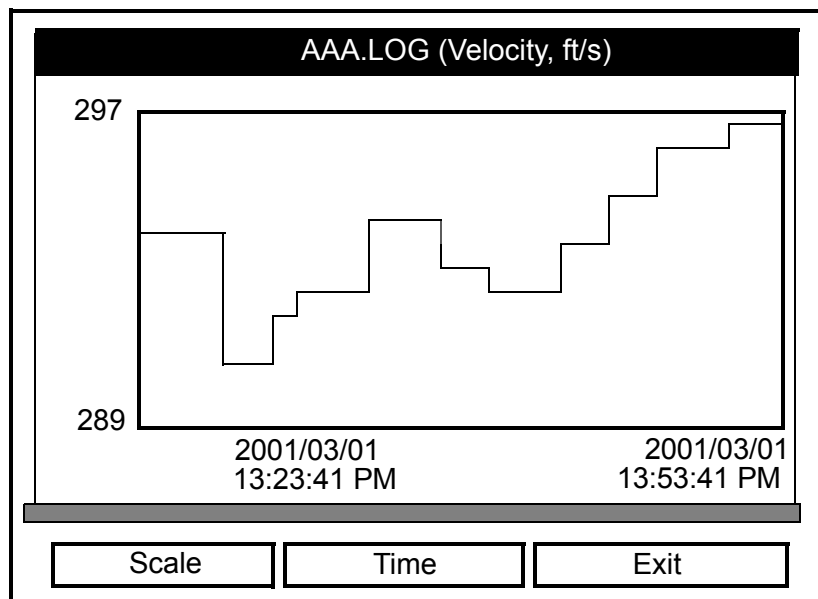

Figure 5-12: The Log Graph Window
5. If the log contains more than one measurement, scroll through the list to highlight the parameter you wish to graph. Then, press [F3] (View) and a window similar to Figure 5-12 below appears.